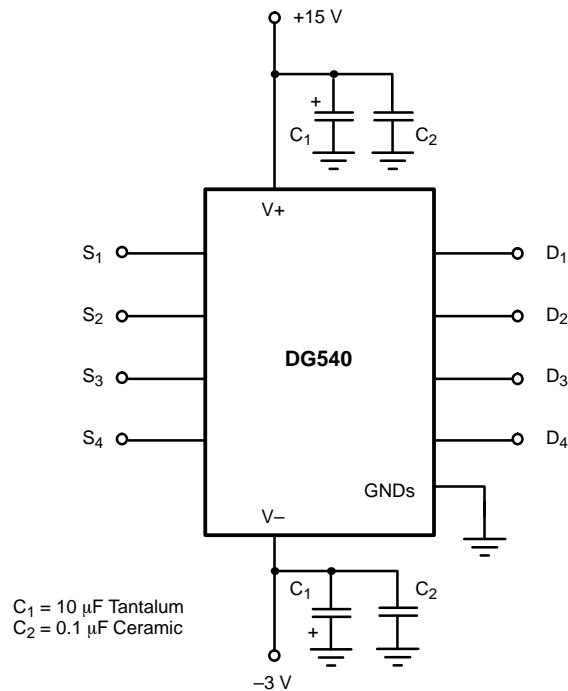

FIGURE 7. Supply Decoupling
1. Decoupling capacitors should be incorporated on all power supply pins ($V+$, $V-$). (See Figure 7.)